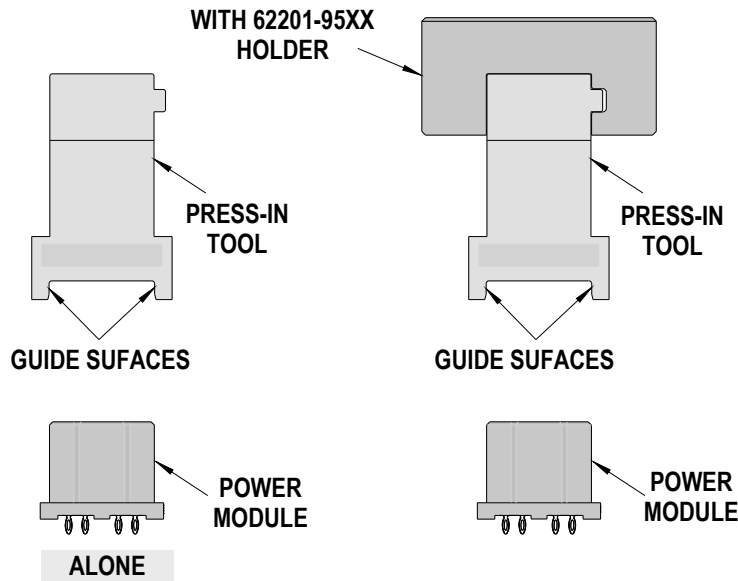

Figure 2-11
Depending on the number of modules to be installed and/or the press used, this tool can be used as a stand-alone or with a group of press-in tools, mounted in a 62201-95XX holder (ordered separately). See Figure 2-11.
4. Line-up the Press-In tool so that the guide surfaces on the tool are in line with the sides of the vertical power module. See Figure 2-11.